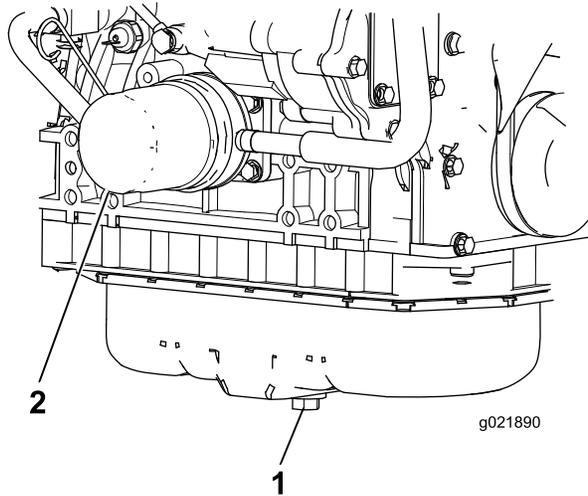

Figure 36
1. Remove the drain plug (Figure 36) and let the oil flow into a drain pan. When all the oil is drained, install the drain plug.
2. Remove the oil filter (Figure 36). Apply a light coat of clean oil to the new filter seal before screwing it on.